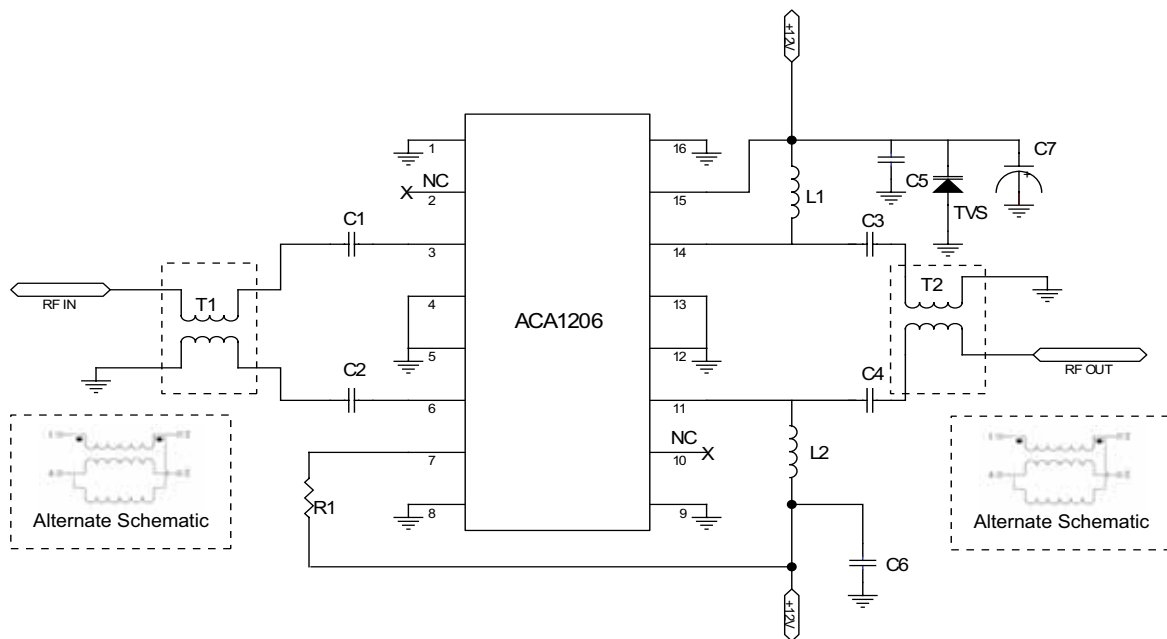

Figure 25: Evaluation Board Schematic
(1) Measured with a balun on the input and output of the device. See Figure 25 for test setup.
(2) 15.6 dB tilt, 49 dBmV output (per channel) at 1002 MHz plus QAM set 6 dBmV down from carrier.
(3) 3 dB tilt, 37 dBmV output (per channel) at 1002 MHz plus QAM set 6 dBmV down from carrier.
(4) Tested with R1 = 5.2 kΩ
(5) Tested with R1 = 2 kΩ